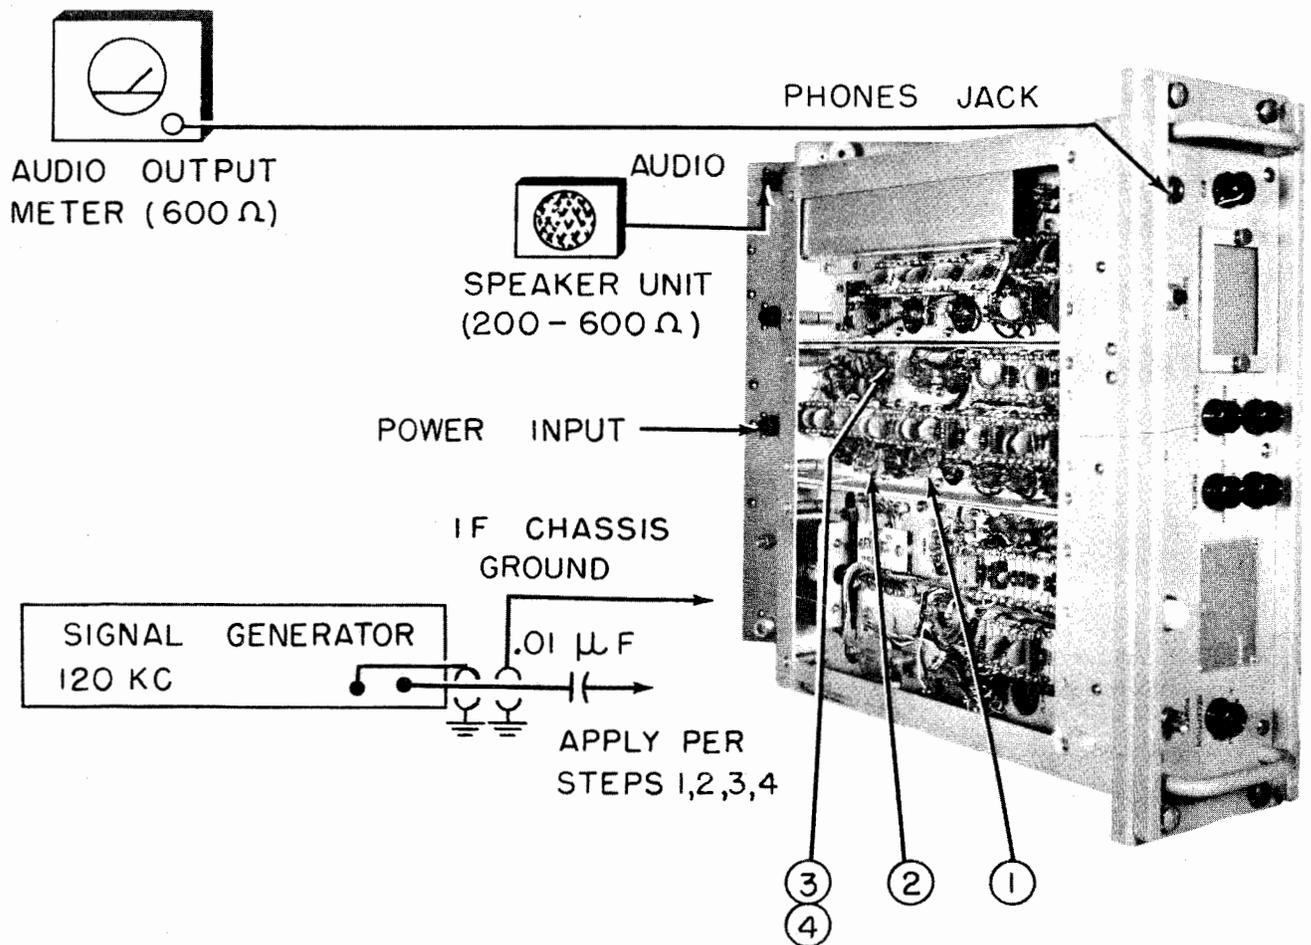

Figure 7-2. 120 Kc IF Amplifier Alignment Set-up
(4) Connect an audio load of 200-600 ohms impedance to the AUDIO receptacle J505 (pins A and B), located on the rear panel of the cabinet. This load can be a speaker, an audio output meter, or a resistance. (See Fig. 7-2.)
(9) Turn the RECEPTION switch (S301), located on the right side of the front panel, to the A2-A3 position. (See Fig. 7-2.)
(10) Turn the LOCAL-REMOTE switch (S403), located at the center of the front panel, to the LOCAL position. (See Fig. 7-2.)
(11) Turn the SELECTIVITY switch (S201), located at the center of the front panel, to the SHARP position. (See Fig. 7-2.)
(12) Adjust the BFO control (R406), located at the left hand side of the front panel, to 50% rotation. (See Fig. 7-2.)
(13) Turn the RF GAIN control (R405), located at the center of the front panel, to maximum clockwise position. (See Fig. 7-2.)
(15) Connect the line from the AC power source to the AC POWER receptacle (J502), located on the rear panel. Throw the POWER switch (S401), located on the front panel, to ON. (See Fig. 7-2.)
(1) Align 120 Kc IF stages. (See Fig. 7-2, Table 7-2.)
(2) Tune BFO to proper frequency. (See Fig. 7-2.)
(1) Set up the receiver chassis and test equipment, as indicated in figure 7-2 for steps 1 to 4. Proceed with the alignment as outlined in table 7-2.
(2) Prepare the 120 Kc signal generator for use by adjusting it to exactly 120 Kc with a Frequency Meter.